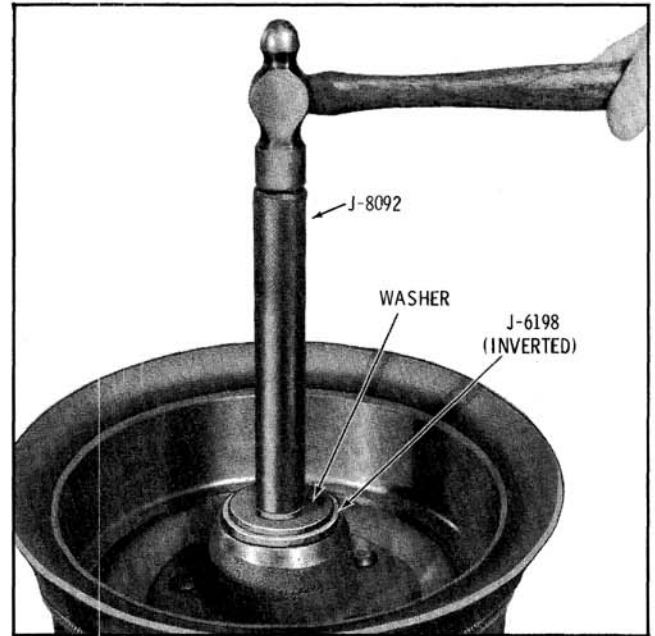

Fig. 9-4 Installing Inner Bearing Outer Race
1. If the outer races were removed, drive or press the races into the hub as shown in Figs. 9-4 and 9-5.